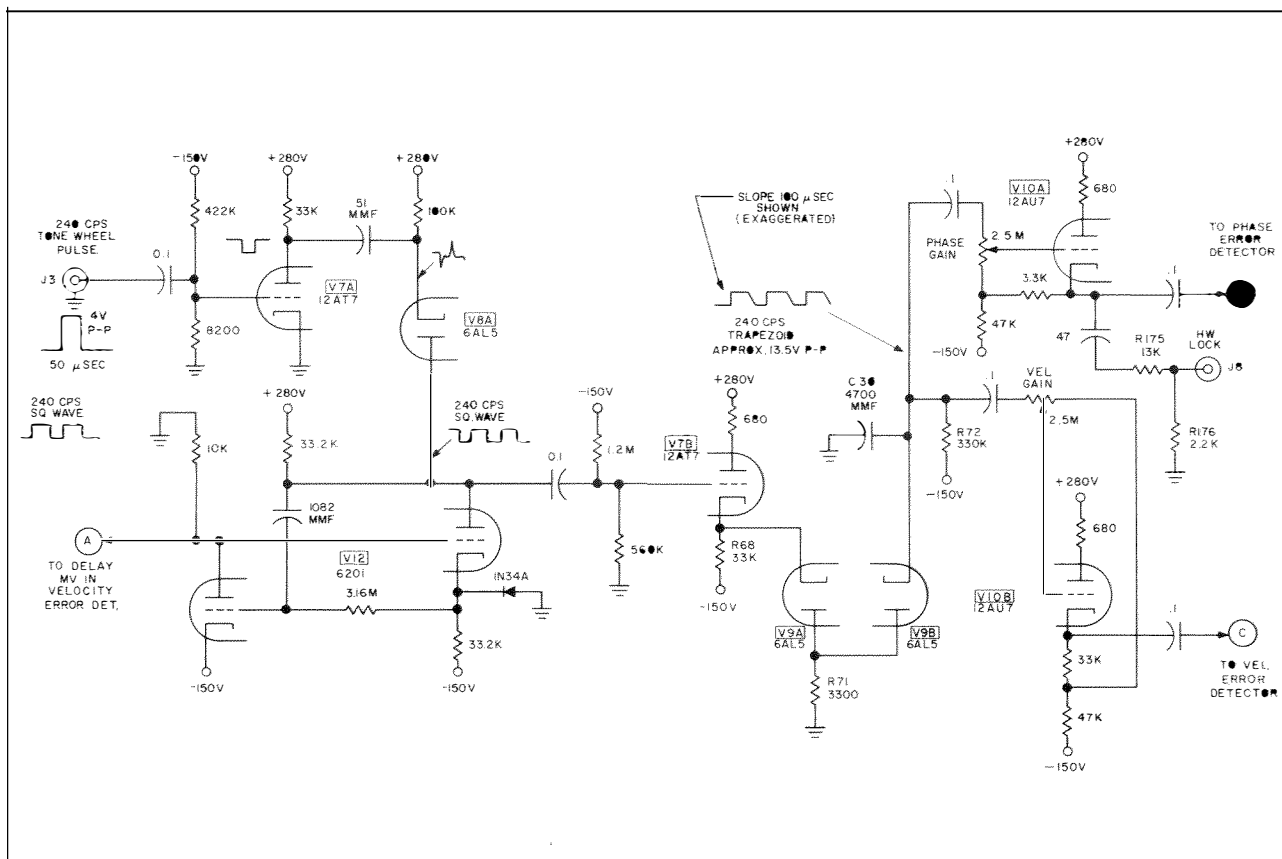

Figure HWS-3. Trapezoid Generator Simplified Schematic Diagram
*Trapezoid Generator.* The circuit that is used to generate a trapezoidal waveform from the tonewheel pulse is shown in figure HWS-3. The output signal of the tonewheel amplifier is applied to jack J3 (240 TW) and is amplified by a conventional voltage amplifier stage (V7A). The output of the voltage amplifier is applied to a differentiating network which converts the pulse into a pair of negative and positive "pips". The negative pip, corresponding to the leading edge of the input pulse, is coupled through diode V8A to trigger a multivibrator V12. This multivibrator is a stabilized monostable type. In the resting condition, V12A (left side) is conducting and V12B is cutoff. When a negative trigger pulse is applied to the plate (pin 1) of V12A the state of conduction reverses very rapidly, and the grid of V12A is driven below cut-off. Output signals are taken from both plates of the multivibrator. Stage V12A supplies a square wave to the velocity error detector. The output of V12B is coupled to a fixed bias cathode follower stage V7B, which in turn is connected to the trapezoid generator V9. The peak-to-peak signal applied to the grid of V7B is more than adequate to make the cathode swing from cutoff to a conducting state which